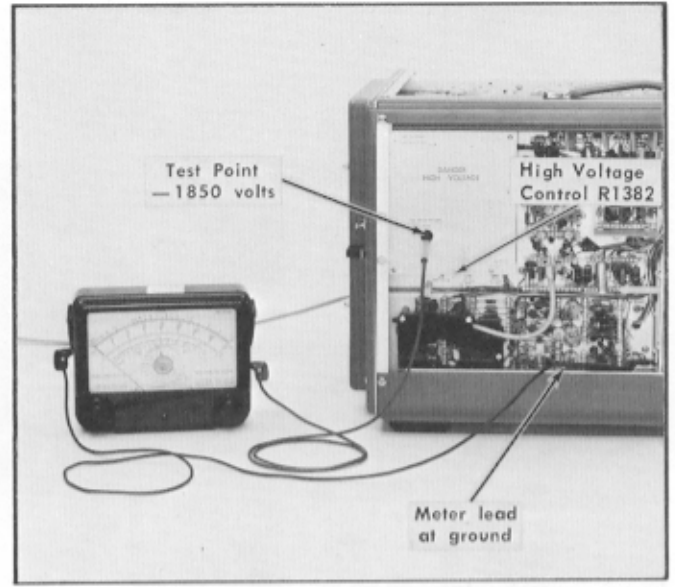

Fig. 6-11. Test setup for adjusting high voltage—Upper Beam.
a. Connect the meter leads from the high voltage test point to chassis ground, as shown in Fig. 6-11.
c. Adjust High Voltage control R1382 for a meter reading of —1850 volts. Fig. 6-11 shows the control location.